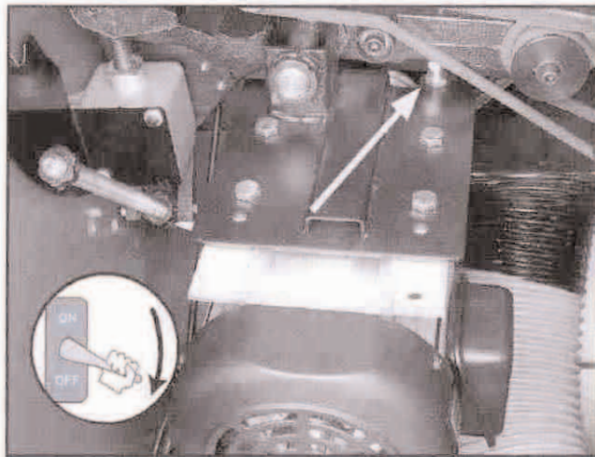

Figure 76. V-belt tension bolt.
3. Loosen the belt tension bolt (Figure 76) and pivot the motor up.